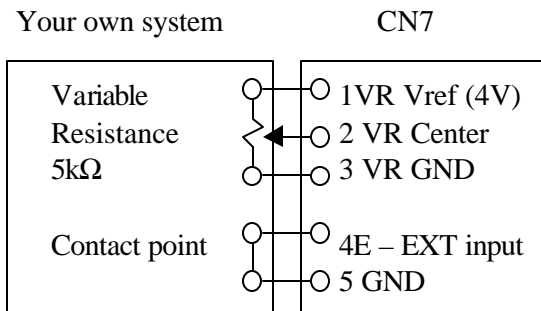

Figure 5
- A maximum resistance of $5k\Omega$ should be connected between 1P, 2P and 3P of CN7. Adjustment between 0 and $5k\Omega$ results in a speed change between the 0 and 100% levels (see Figure 5).